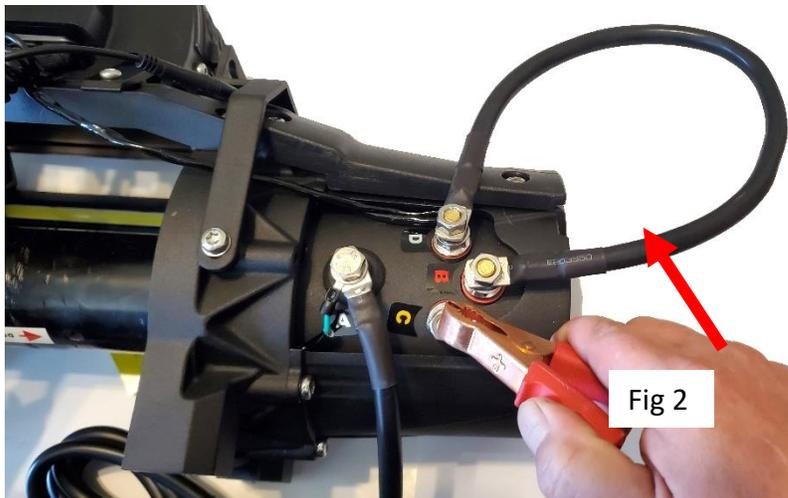

Fig 2
Step 4: Attach a large gauge jumper wire between the B (red) and the D (black) terminals. Using a jumper cable from the positive battery terminal to terminal C (yellow) on the motor tap the jumper onto the terminal. Take care that jumper cable does not contact motor housing Motor should power the opposite direction. Fig 2.